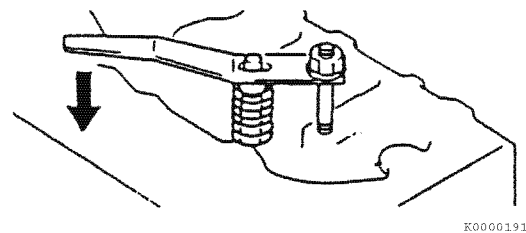

Figure 6-48
2. Using the valve spring compressor tool, compress one of the valve springs (Figure 6-48).